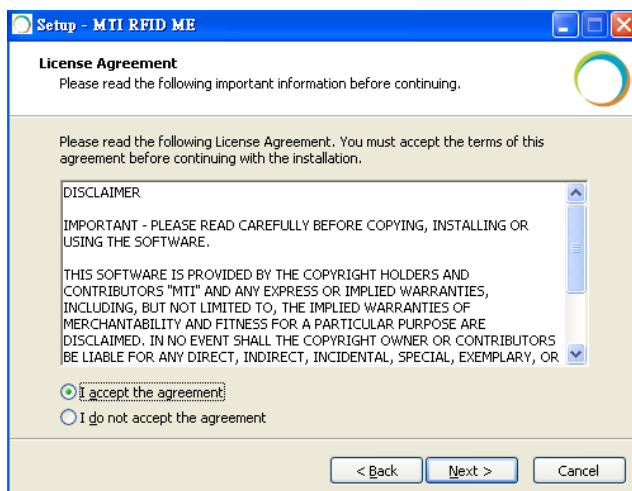

Figure 2
2.1.2. Read the license agreement and select “I accept the agreement” as shown in Figure 2 to accept.